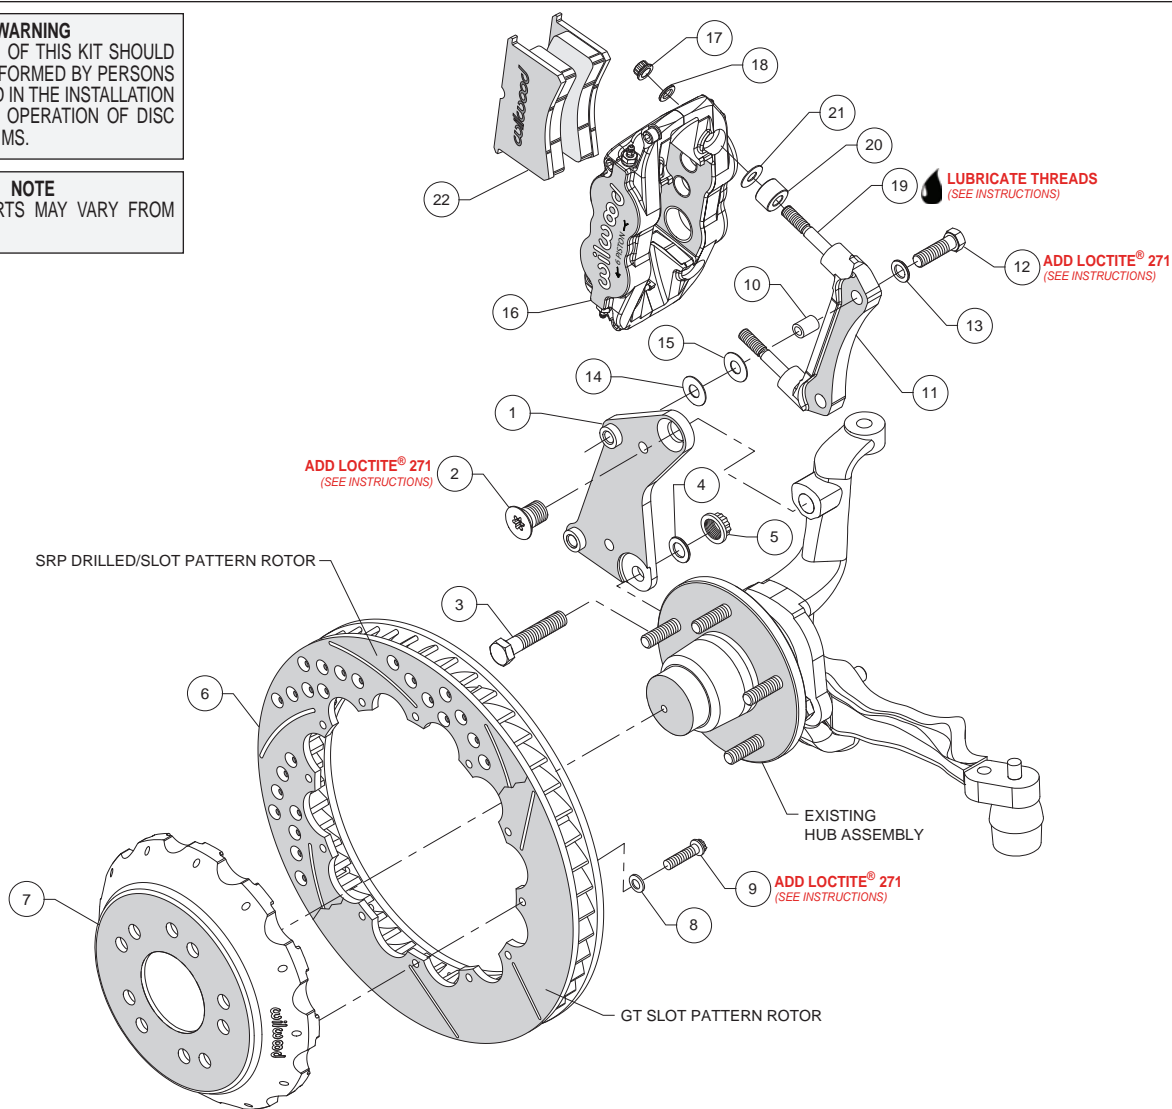

Figure 1. Typical Installation Configuration
- The radial mount caliper bracket assembly (11) should be installed first with clean, dry threads on the mounting bolts. Slide bolt sleeve (10) into the mounting holes of bracket (11). Install the bracket on the back side of the spindle/flat caliper mounting bracket (1) by sliding bolt (12) through washer (13), and through sleeve (10.) Initially place three shim washers (14) between the two brackets (1 and 11) (see Figure 1). The bracket must tighten squarely against the side of the spindle/caliper bracket. Inspect for interference from casting irregularities, machining ridges, burrs, etc. Later, after the caliper, pad, and rotor alignment has been checked, and any necessary shims have been put in place, the mount bolts should be coated with red *Loctite*® 271 and torqued to 47 ft-lbs.
- NOTE:** This kit contains distinct right and left hand calipers that must be mounted in a specific direction, as described below. Lubricate the caliper mounting studs (19) with lightweight oil. Initially place .035” thick shim (21) and one spacer (20) on each stud as shown in Figure 1. Mount the caliper (16) onto the radial mount bracket (11) using lock nuts (17) and washers (18), Figure 1. Ensure that the caliper is mounted so that the largest pistons are at the rotor exit end of the caliper, in relation to the direction of rotor rotation. Temporarily tighten the lock nuts and view the rotor through the top opening of the caliper. The rotor should be centered in the caliper. If not, adjust by adding or subtracting shims (14 and/or 15) between the spindle/caliper bracket (1) and the radial mount bracket (11). Always use the same amount of shims on each of the two mounting bolts.
- Remove the caliper center bridge pad retainer bolt, nut, and tube from the caliper. Slide the brake pads (22) into place. They should install easily without interference. Check that the outside radius of the brake pad is flush with the outside diameter of the rotor face. Add or subtract shims (21) between the caliper and mount bracket to gain the proper alignment. Reinstall the center bridge pad retainer tube, bolt, and locknut. The locknut should be snug without play in the bolt or tube. Be cautious not to over tighten.
- Once all clearances have been checked, remove the wheel, caliper, hat, and rotor from the spindle and hub. Secure the spindle/caliper mounting bracket (1) to the spindle with bolts (2 and 3) using red *Loctite*® 271 on the bolt threads. Torque bolt (2) to 140 ft-lb and bolt (3) to 77 ft-lb. Remove bolts (12) from the radial mount caliper bracket (11) and coat threads with red *Loctite*® 271 and reinstall. **NOTE:** Only removing one bolt at a time, then coating the threads and reinstalling will help keep all the shims in place. Torque bolts (12) to 47 ft-lb. Reinstall the hat and rotor assembly and again use lug nuts to hold it in place. Reinstall the caliper (16), torque the caliper nuts (17) to 28 ft-lb.